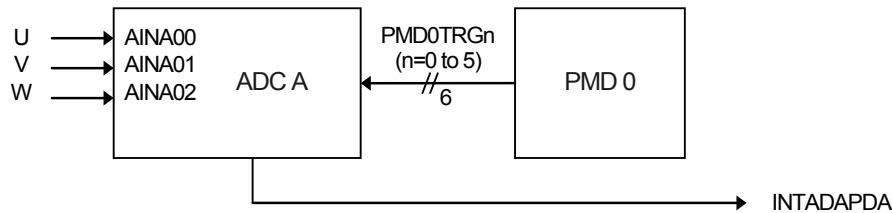
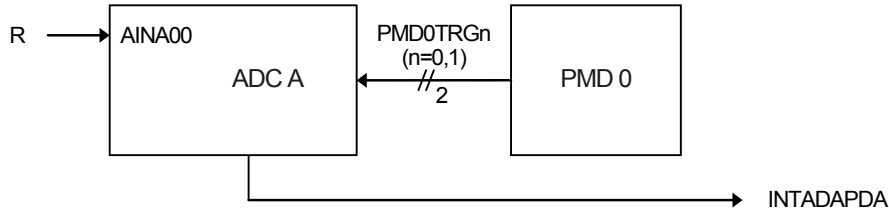

Figure 5.1 3-shunt example
Figure 5.2 1-shunt example
<p>No8: Monitor function output0→ Monitor function 0 output No9: Monitor function output1→ Monitor function 1 output No.15: Monitor function interrupt0 →Monitor function 0 interrupt No.16: Monitor function interrupt1 →Monitor function 1 interrupt</p> <ul style="list-style-type: none"> - 3. Function and Operation <ul style="list-style-type: none"> 2nd and subsequent: Separated into "3.1.Clock Supply" Modified register name ADC→AD conversion - 3.2.1.Operation <ul style="list-style-type: none"> Modified 2nd line "general start-up" → "general purpose start-up" Modified 2nd term 1st line "start-up" → "general purpose start-up" Figure 3.1 "General-purpose"→"General purpose" AINx0 to AINx3 → AINx00 to AINx03 1st stage: <AINSn> → <AINSTn> - 3.2.2.Control Registers <ul style="list-style-type: none"> 1st term: "[ADxTSETn] n=0 to 23"→"[ADxTSET0] to [ADxTSET23]" "general start-up factor"→"general purpose start-up factor" 3rd term: If→When Added "For start AD conversion by the general purpose start up factor, ..." General purpose trigger conversion term (8): [ADxCRO] → [ADxCRO] Note: "highest-priority"→ "general purpose" - 3.3.2. Control Registers <ul style="list-style-type: none"> 2nd term: PMD trigger program selection register → PMD trigger program number selection register Added (PMDTRG0 to PMDTRG11) (6): [ADxPINSn] → [ADxPINTSn] (8): [ADxCRO] → [ADxCRO] (10): conversion →"conversion program" - 3.5. Start-up Priority <ul style="list-style-type: none"> Figure: "General-purpose"→"General purpose" Added 2nd stage: " If multiple start-up factors occur at the same time, ..." 3rd to 6th stage: program→ conversion program, factor→start-up factor If→When, "is generated"→"occurs" 4th stage: "its program execution is not done and waits" → "it waits for execution" 5th stage: Replace text. Table 3.2 Note5: halted→suspended, facter→factor - 3.6. AD Monitor Function <ul style="list-style-type: none"> 3rd stage: whose → which, (bigger or smaller) → (larger or smaller) (1)Determination by Continuous.. , (2)Determination by Accumulated ...: [ADxCMP0] → [ADxCMP0]<AD0CMP0>, <ADxCMP0> → <AD0CMP0> Figure 3.3, Figure 3.4: <ADxCMP0> → <AD0CMP0> - 4.1.List of Registers <ul style="list-style-type: none"> Deleted Function cell Function name: Analog to Digital →12-bit Analog to Digital - 4.2.5. DACON/Function: Added "(Note2)" - 4.2.6. Function: "x× 36"→ "x 36", Deleted Note2 - 4.2.11., 4.2.12. Bit Symbol: ADxCMP→AD0CMP - 4.2.13. Register→Registers - 4.2.13.1. Note2: "Motor control circuit" → "Programmable Motor Control Circuit" - 4.2.13.2. Function: "11: No interrupts" →"11: Reserved" - 4.2.13.4. Function: Write "00". → Write as "00". - 4.2.14. AINST0/Function: Added "(Note2)" - 4.2.15. Bit Symbol: ADOVRF_M0 → ADOVR_M0 - 5.1.: "end of two conversion" → "end of second conversion" - 5.2.1. Title: 3-Shunt→3-shunt Figure 5.1: AINA0 to AINA2 → AINA00 to AINA02 - 5.2.2. Title: 1-Shunt→1-shunt Figure 5.2: AINA0 → AINA00